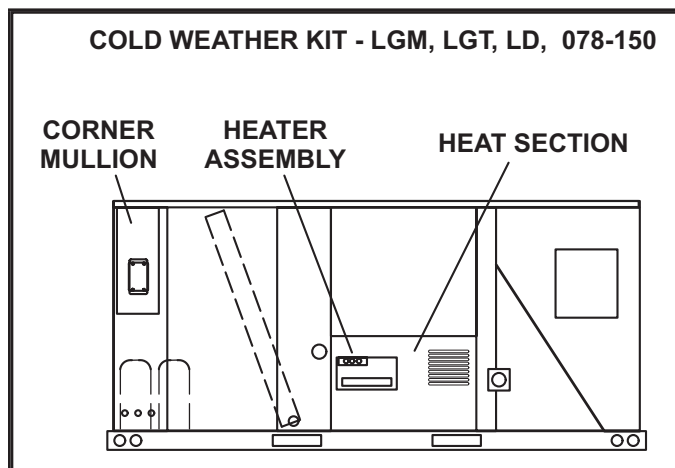

FIGURE 8
- 1 - Disconnect all power to unit and open heat access panel. See FIGURE 8.